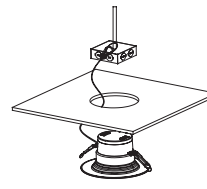

Fig. 7
- Step 2: Attach the carabiner safety clip to the existing fixture housing ( Fig.7).